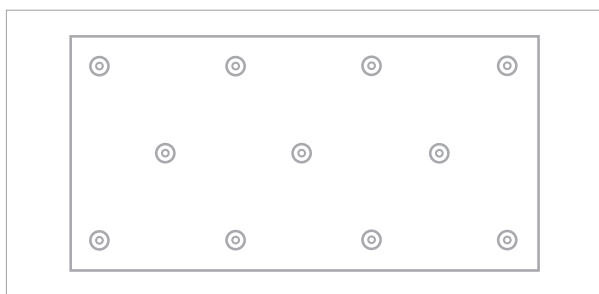
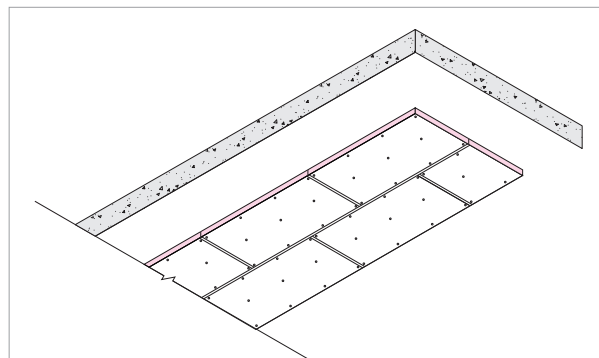

Figure 4. Fastener pattern (11 per board).
Figure 5. Board joints staggered.
2. Board joints can be either staggered (see Figure 5) or squared (see Figure 6) and taped with 96 mm wide silver Kingspan Insulation Tape. Four fasteners along each length - no less than 50 mm - no more than 150 mm from edge of board, three fasteners along the middle (offset from edge positions as per diagram Figure 4).